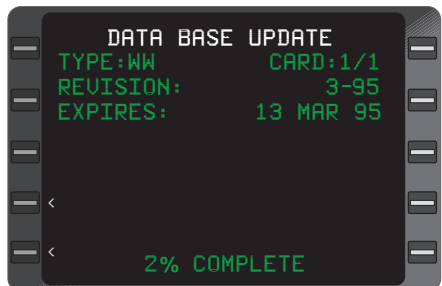

Figure 5-2
6. With cursor over option **1**, **ENT** Key - **DEPRESS**. The Update - Data Base Page and, the message "**X**" % "**COMPLETE**" appear indicating the update is in progress. (Figure 5-2)